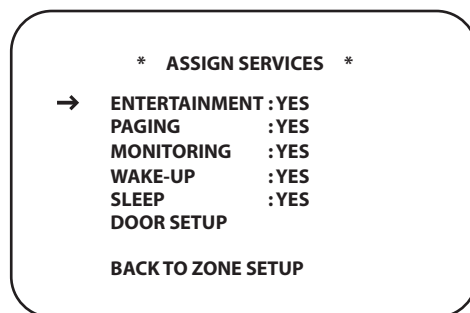

Figure 59.
1. From ZONE SETUP PAGE 1, with the cursor next to ASSIGN SERVICES press the **Set Button 18**. The ASSIGN SERVICES screen will appear (**Figure 59**).